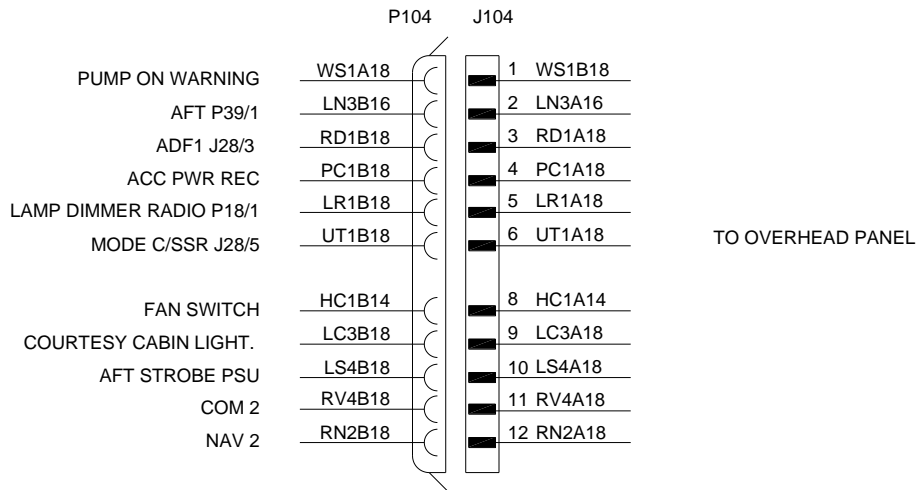

Figure 1: Connector P104 / J104
- 1.3. Disconnect connector P104 / J104 and remove the blower fan circuits, HC1A14 and HC1B14 (Figure 1).